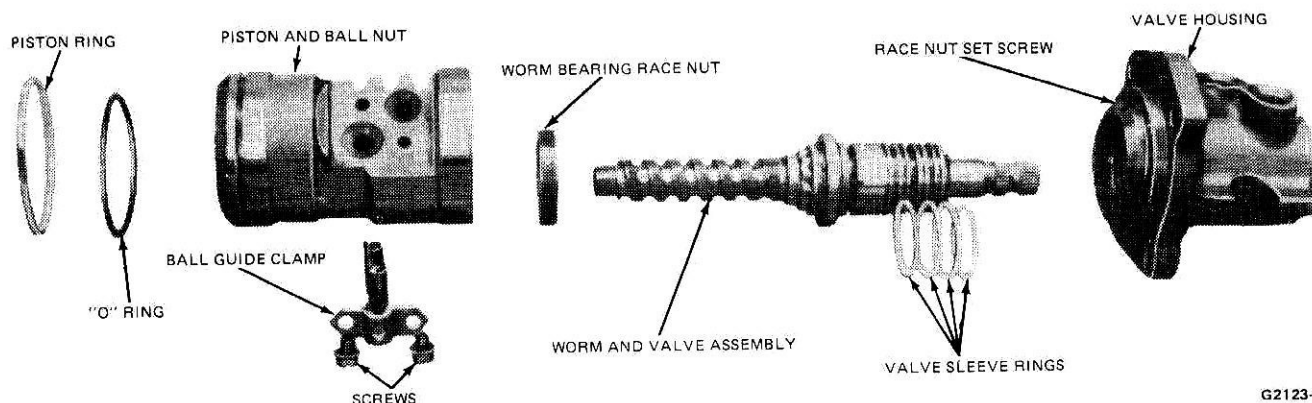

FIG. 5 Ball Nut and Housing Disassembled—Rotary Valve Type
11. Remove the screws that attach the ball guide clamp (Fig. 5) to the ball nut. Remove the clamp and the guides.